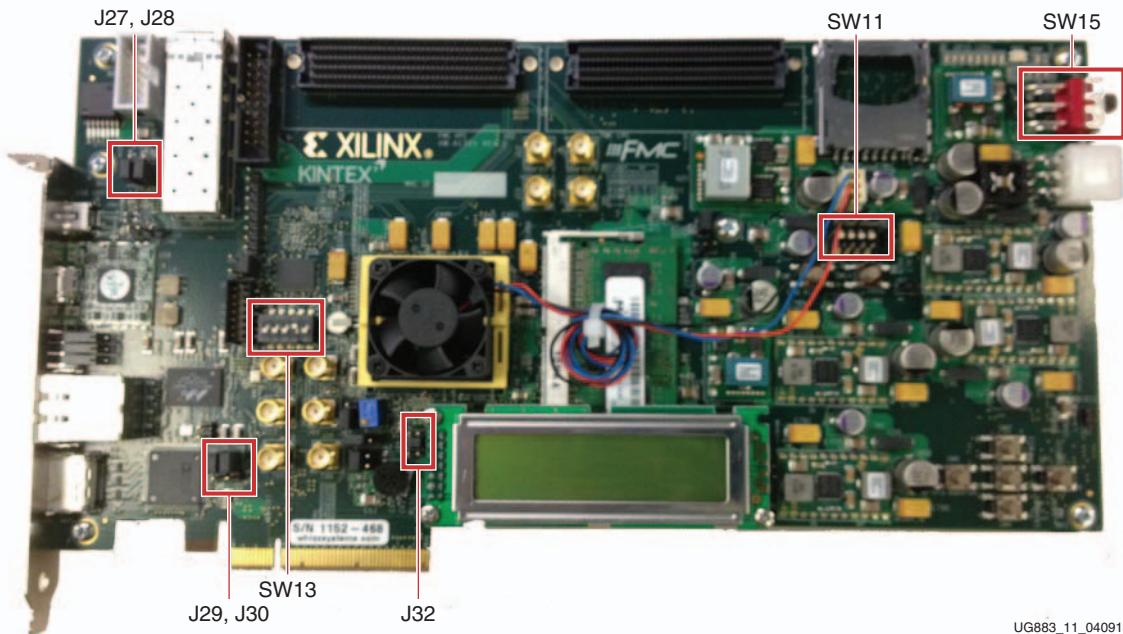

Figure 11: Switch and Jumper Settings
1. Set the KC705 Jumpers and Switches: Verify that the KC705 Evaluation board jumpers and switches are set as shown in Table 3 and Figure 11.